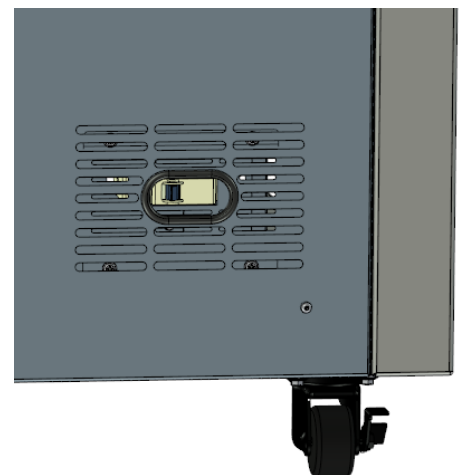

Figure 7 – Resetting the MCB
- (d) Check the MCB is set to the ON position (on rear of unit) – see Figure 7 – Resetting the MCB.